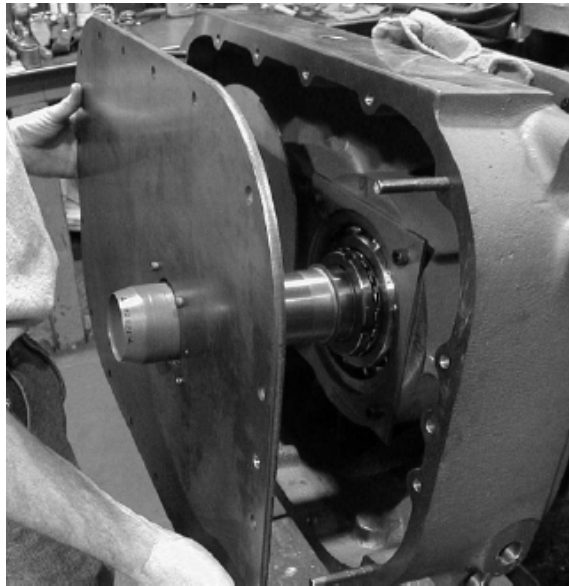

FIGURE 7-21 – END COVER ASSEMBLY
20. Bend the ear of the lock washer (42) into the slot of the nuts (41) on the main rotor shaft extension. Oil the bearing generously.
21. Check the shaft extension and keyway for burrs. Cover the shaft and keyway with a thin protective installation sleeve. Push the oil seal (31) into the seal adaptor (53). Install the seal adaptor gasket (54), seal and adaptor to the end cover (18) using four screws (70) and two dowels (52). Slide the end cover assembly over the shaft extension FIGURE 7-21 and mount the cover to the bearing carrier with screws (59) and washers (60). Remove the protective installation sleeve. Drive dowels (51) into end cover/bearing carrier holes. Install drive key (49). **The third important measurement** for clearance is to provide for floating bearings at the gear end.